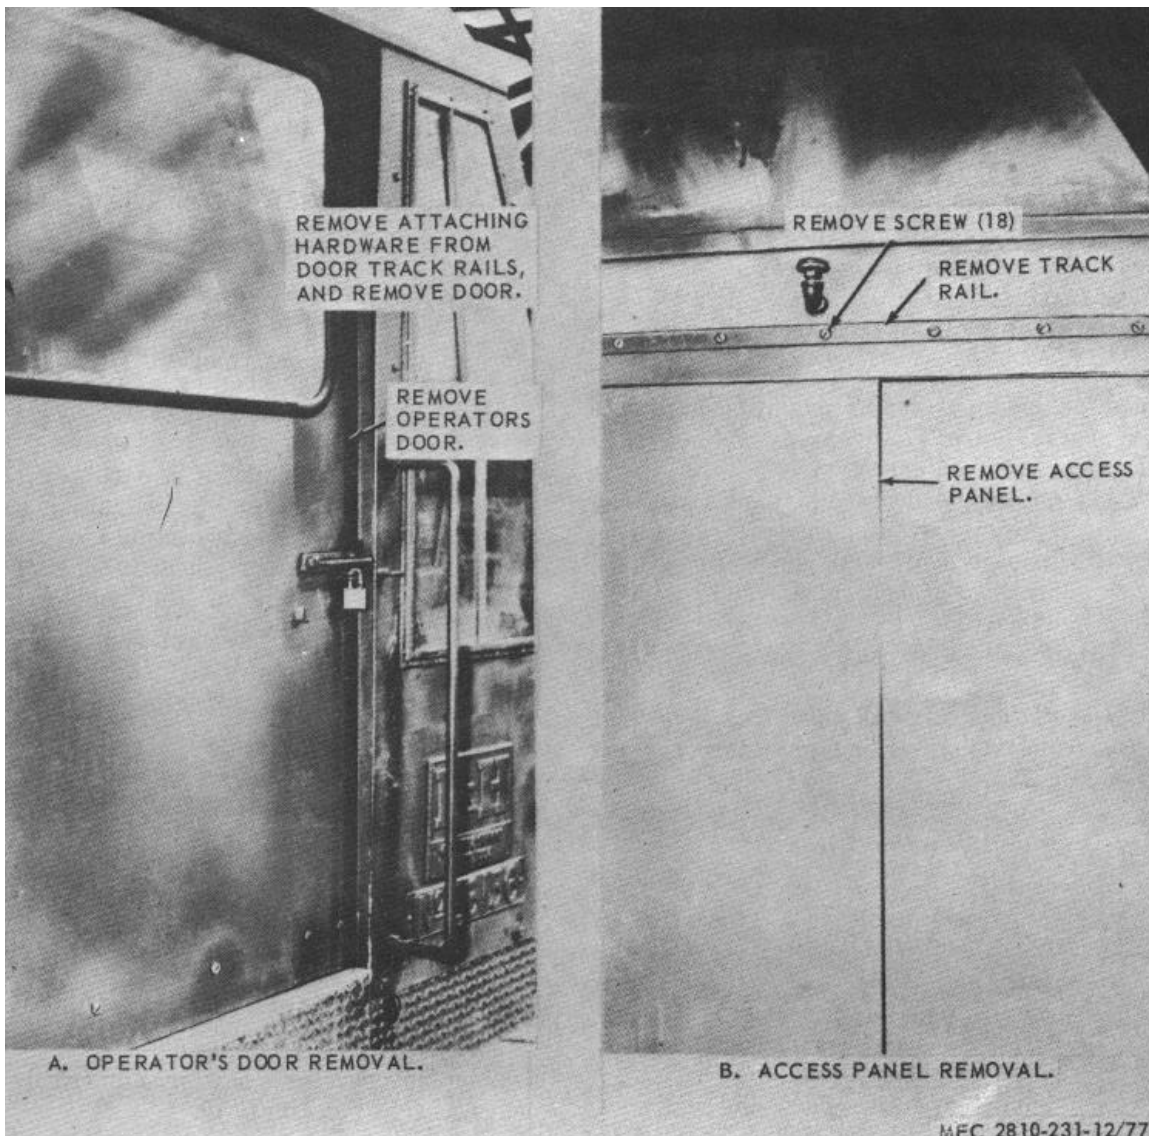

Figure 77. Crane cab assembly.
a. *Removal.* Remove operator's door and access panels by removing mounting hardware as shown in figure 77.
- (1) Clean the doors and panels with an approved cleaning solvent.
- (2) Inspect doors and panels for bends, breaks, broken glass and other damage.
- (3) Repair as necessary and replace broken glass.
c. *Installation.* Install operators door and access panels by reversing procedure for removal (fig. 77).